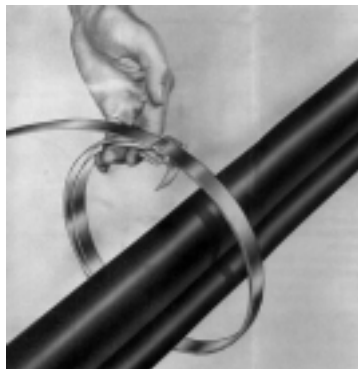

Fig. 3.8. Band around pole
- Continue band around object once more and again through buckle (Fig. 3.8.) Double banding develops a great deal more radial compression than single banding. Bend end of band under buckle.